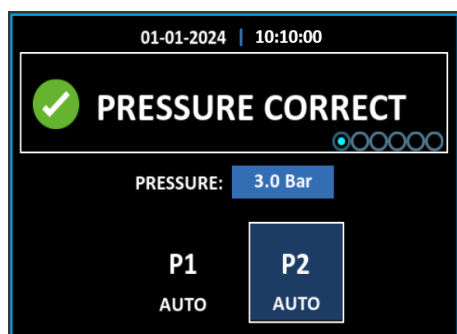

Fig 3.19: Pump 2 Edit Mode
- Use the 'RIGHT'  and 'LEFT'  arrow buttons to toggle between Pump 1 (P1) and Pump 2 (P2) (see Fig 3.19).